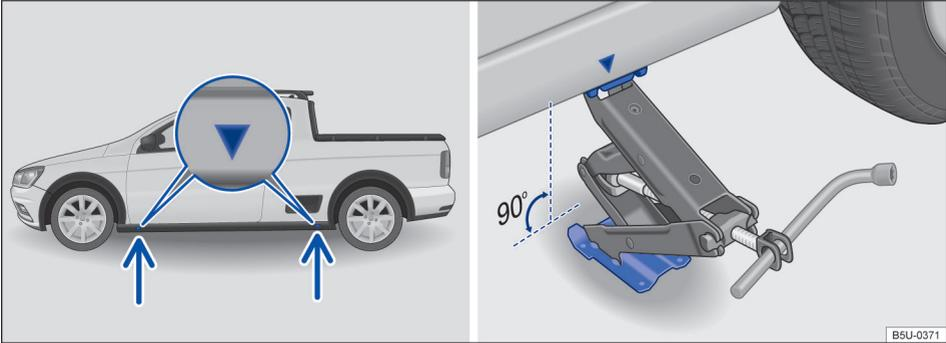

Fig. 171 Jacking points and vehicle jack at the rear left-hand side of the vehicle.
The jack may be applied only at the jacking points shown (markings on the body) → Fig. 171. Always use the jacking point closest to the wheel you are working on → ⚠️.
7. Find the jacking point under the vehicle → Fig. 171 closest to the wheel that is being changed.
9. Ensure that the entire surface of the foot of the jack is resting securely on the ground and that the foot of the vehicle jack is positioned precisely below the jacking point → Fig. 171.
10. Align the jack and, at the same time, raise the vehicle jack claw until it engages with the cross piece under the vehicle → Fig. 171.
- Fit the vehicle jack only at the points described. The vehicle jack claw must fit securely into the side member rib → Fig. 171.